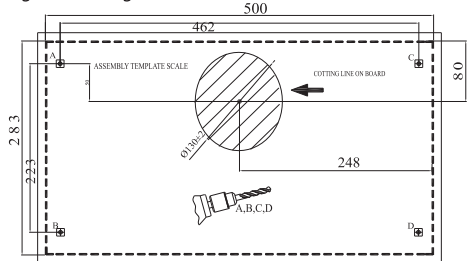

Figure 3 – Drawing of installation holes
The SL-series range hoods are designed for hidden installation in a kitchen cabinet. Figure 3 below shows the distances between the installation openings for installation in a kitchen cabinet.
- Mark on the bottom of the cabinet and drill four holes with diameter \varnothing 2 mm, taking into account the distances between the installation holes specified in Figure 3.